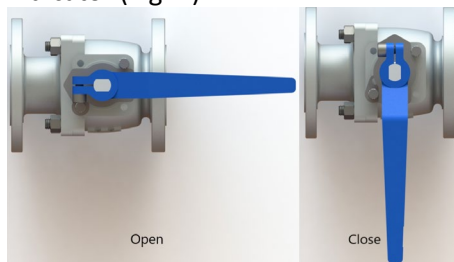
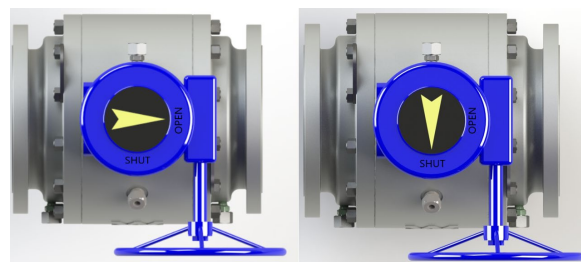

Figure 3
Figure 4
- B. Ball valves shall be of quarter-turn design (90° rotation) with clockwise closing and counterclockwise opening (Fig. 3). For lever-operated valves, ensure adequate clearance for unobstructed operation. For gear operated valves, the position is indicated by the arrow-indicator (Fig. 4).